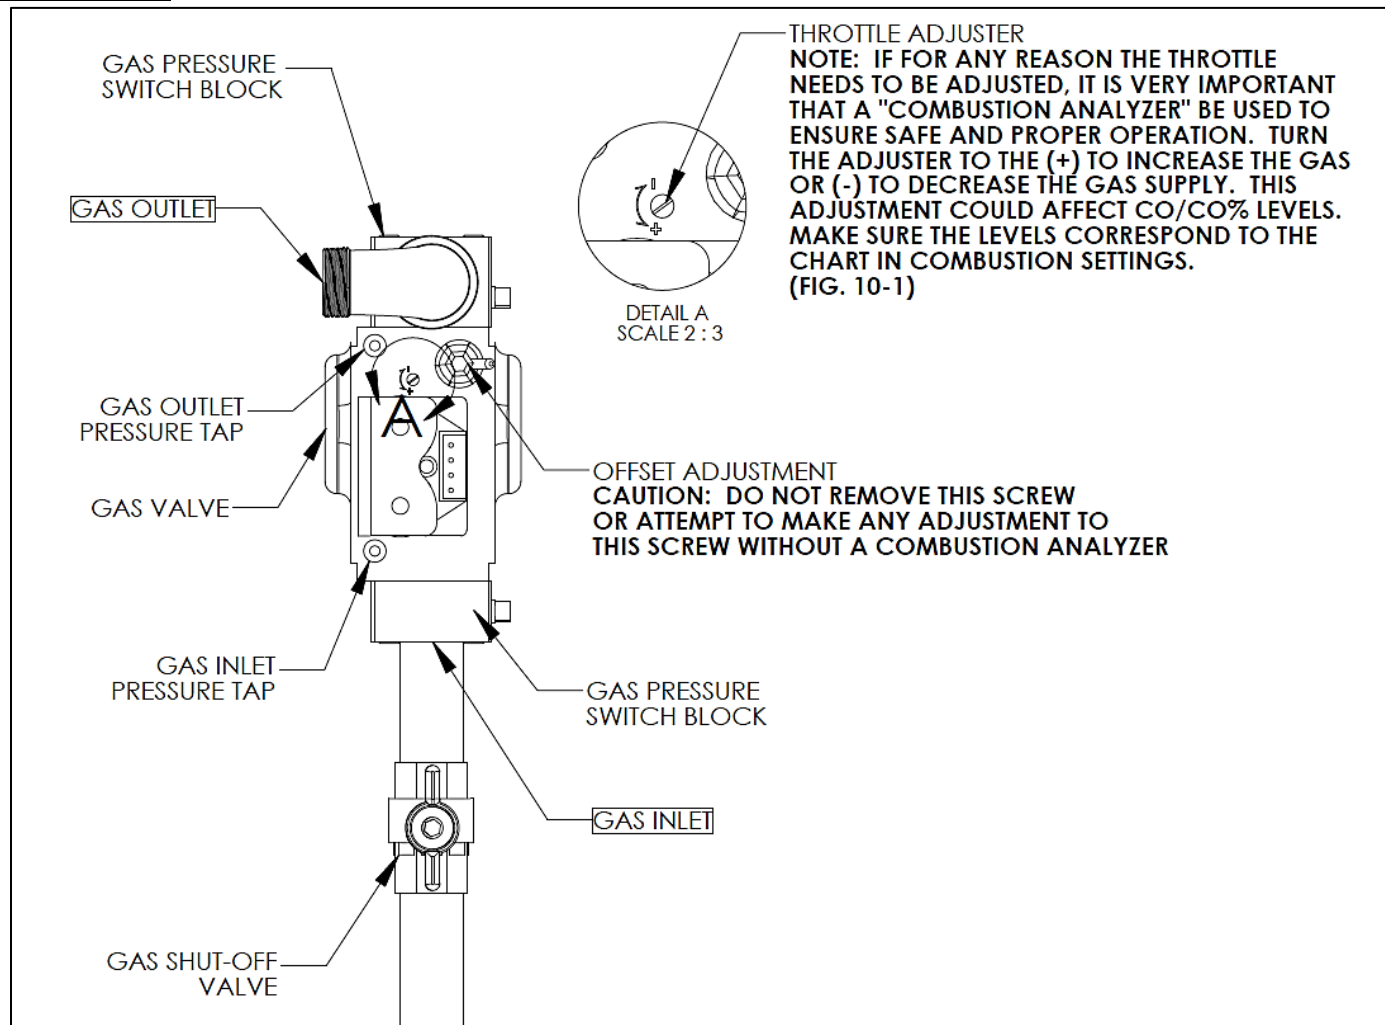

Figure 20 – Mod Con 300/500 Gas Valve
- Loosen the pressure tap with a small screwdriver. Refer to Figs. 20 and 21 for locations.